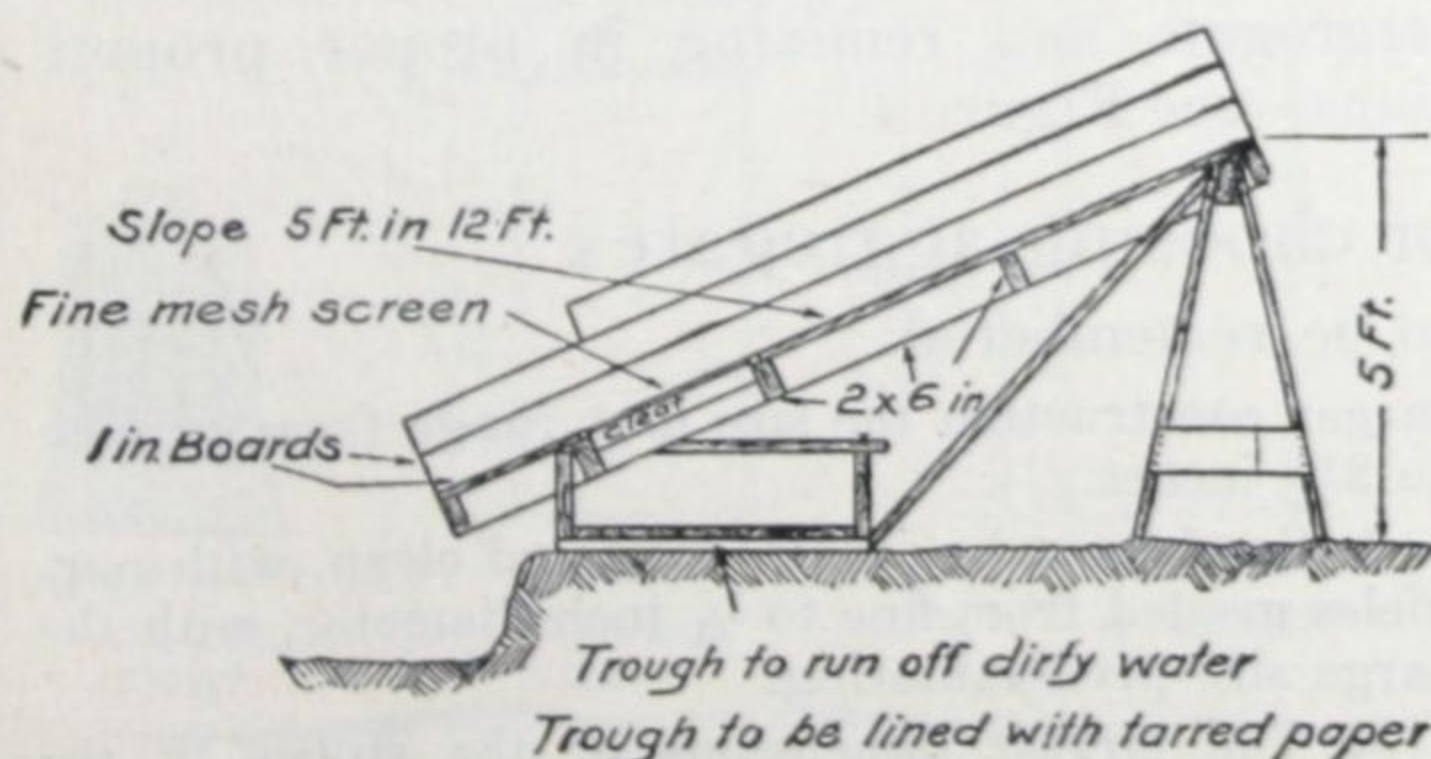

Fig. 3—Temporary device to screen and wash sand.
26. Washing is easily done, especially if the gravel bank is right at the site of the work—see Figure 3. The sand and gravel are shoveled on the upper end of the platform and washed down the incline with water. The dirty water drains off through the screen and the clean material falls from the lower end of the platform.